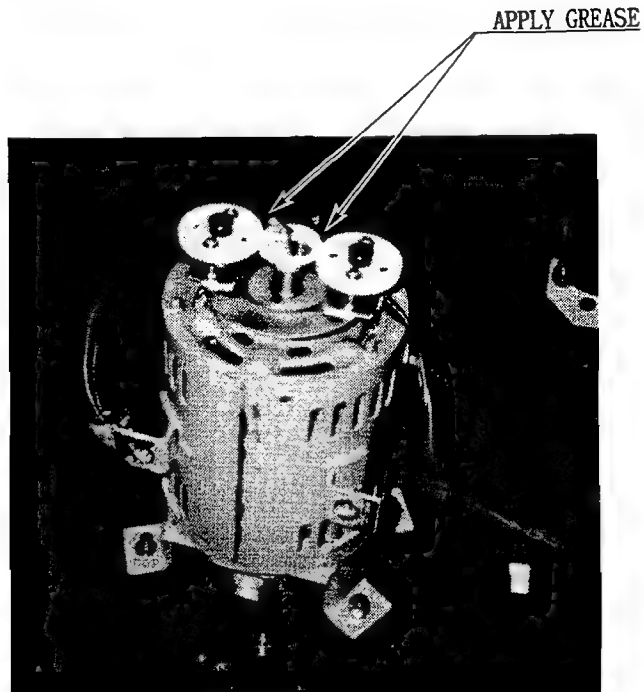

FIGURE 63: STEERING WHEEL GREASING
3. Apply lubricant to the area shown in Figure 63 once every three months. Use Shell Auto Grease (090-044 Net 300g).